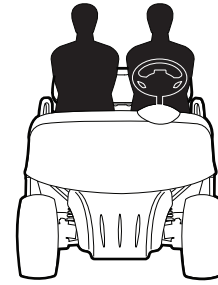

Fig. 13 Equally Load Vehicle
1. Equally load both sides of the vehicle (Ref Fig. 13) and apply maximum force and travel to the service brake pedal while moving.